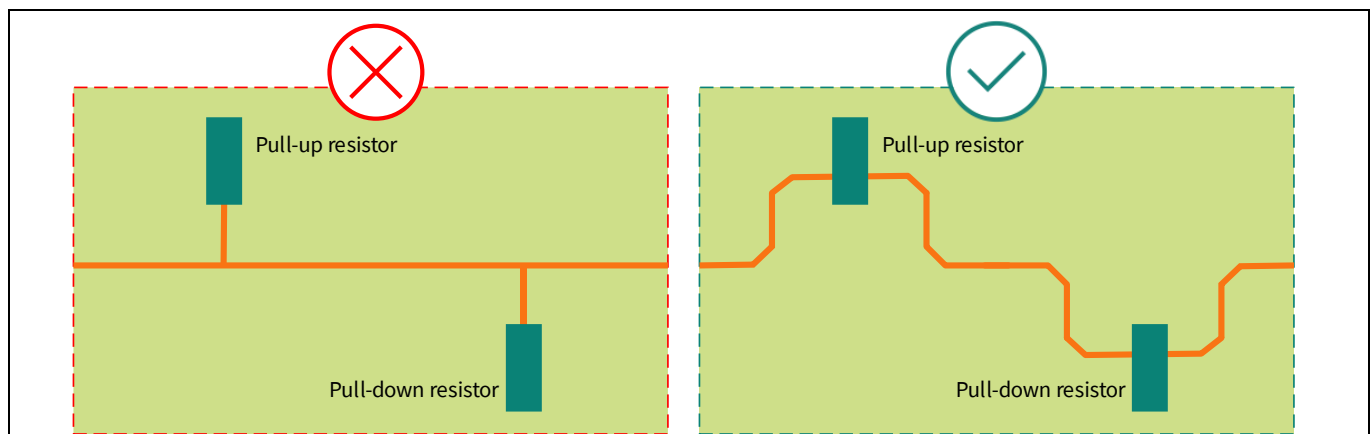

Figure 6 Implement daisy chain routing when using pull-up and pull-down resistors to avoid stubs
- Pull-up or pull-down resistors on high-speed signals are common sources of stubs. If such resistors are necessary, route the signals as a daisy chain, as shown in Figure 6